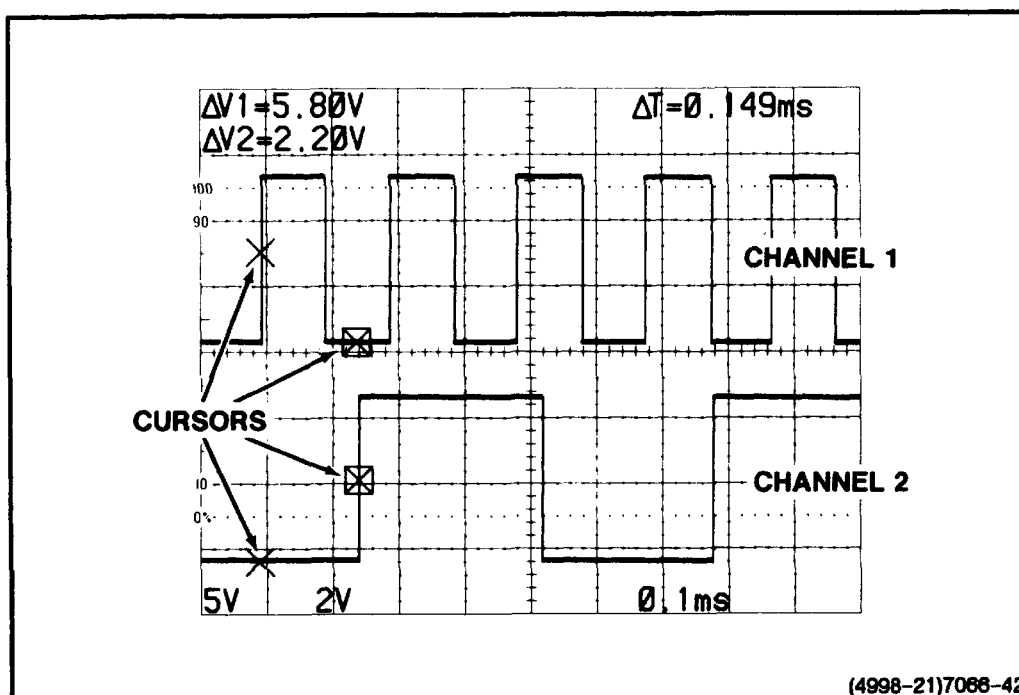

Figure 6-17. Time difference between two time-related pulses.
10. Push in the CURSORS knob (the SELECT C1/C2) to select the other cursor, and use the CURSORS control to position the active cursor at the 50% level of leading edge of the Channel 2 pulse (see Figure 6-17).